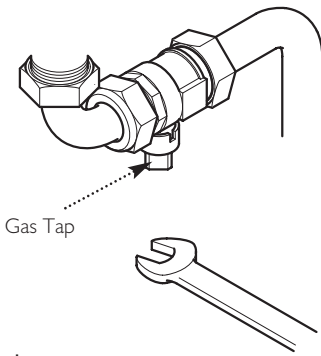

Fig. 1
1. Using a suitable open ended spanner, turn the square nut on the gas tap through 90° (1/4 turn) in a clockwise direction to isolate the gas supply at the boiler (Fig. 1).